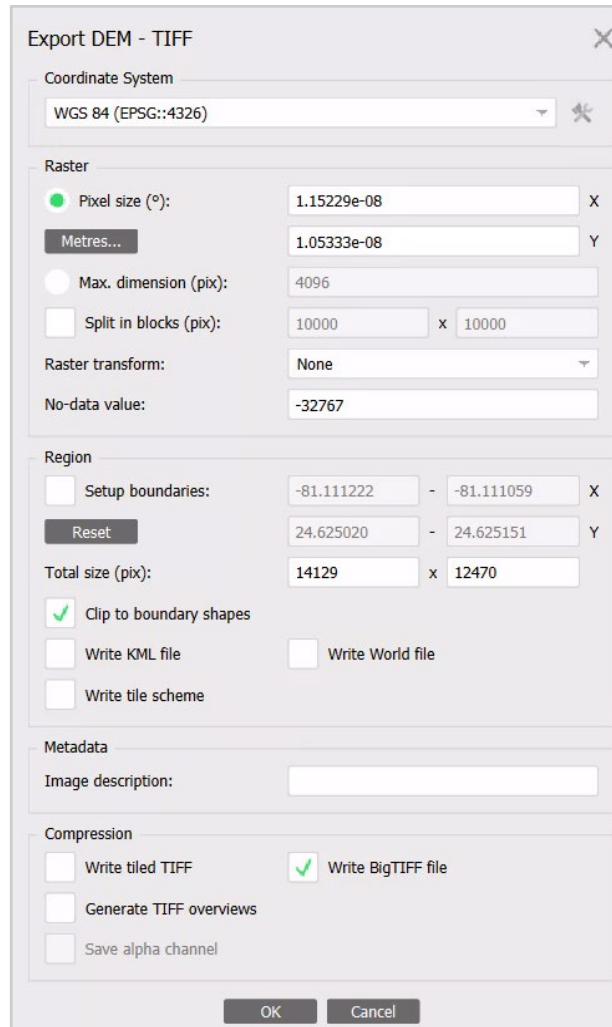

Figure 37. Export DEM - TIFF window with settings as described in step 4.
4. A new window named `Export DEM - TIFF` will appear. Accept defaults for `pixel size`, `no-data value`, and `total size (pix)`, and change settings according to Figure 37. Click `OK`.